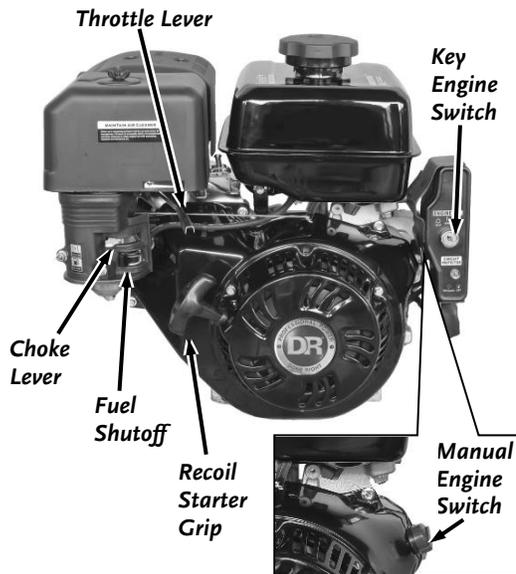

Figure 75
1. When starting a cold Engine; move the Choke Control lever to the left (CHOKE) and the Throttle Control lever to the far right (rabbit) position (**Figure 75**). If re-starting a warm Engine, leave the Choke in the (RUN) position.